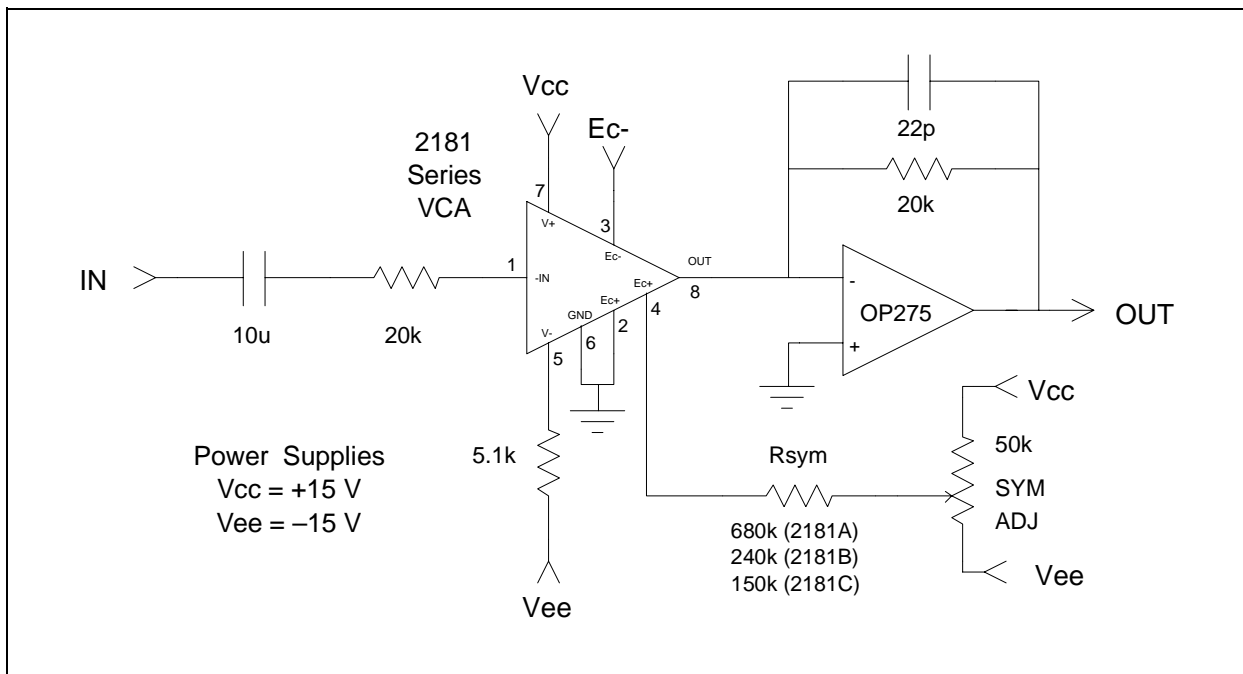
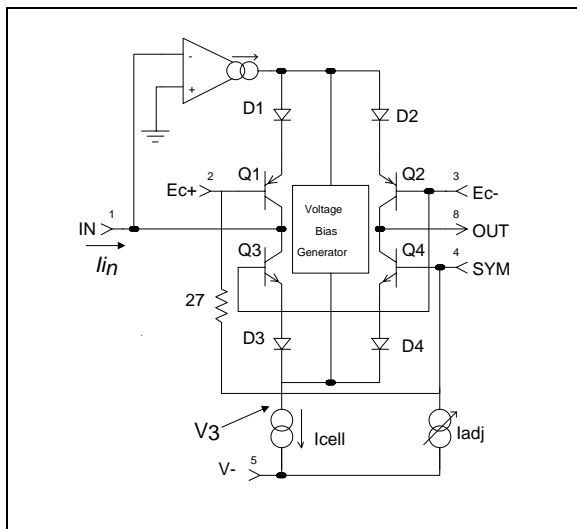
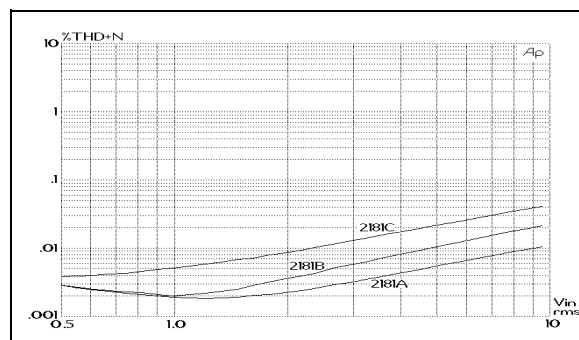

Figure 2. Typical Application Circuit
Figure 5. Simplified Internal Circuit Diagram
Figure 10. 1kHz THD+Noise Vs. Input Level, 0 dB Gain
2. Unless otherwise noted, $T_A=25^\circ\text{C}$, $V_{CC} = +15\text{V}$, $V_{EE} = -15\text{V}$. Test circuit is as shown in Figure 2. SYM ADJ is adjusted for minimum THD at 1 V, 1 kHz, $E_{C-}=-E_{C+} = 0\text{ V}$
Figure 5 presents a considerably simplified internal circuit diagram of the IC. The ac input signal current flows in pin 1, the input pin. An internal operational transconductance amplifier (OTA) works to maintain pin 1 at a virtual ground potential by driving the emitters of Q1 and (through the *Voltage Bias Generator*) Q3. Q3/D3 and Q1/D1 act to log the input current, producing a voltage, V3, which represents the bipolar logarithm of the input current. (The voltage at the junction of D1 and D2 is the same as V3, but shifted by four forward V_{be} drops.)
The 2181 current consumption is determined by the resistor between pin 5 (V-) and the negative supply voltage (V_{EE}). Typically, with 15V supplies, the resistor is 5.1 k Ω , which provides approximately 2.4 mA. This current is split into two paths: 650 μ A is used for biasing the IC, and the remainder becomes I_{cell} as shown in Figure 5. I_{cell} is further split in two parts: about 20 μ A biases the core transistors (Q1 through Q4), the rest is available for input and output signal current.
The 2181-Series VCAs are intended to be adjusted for minimum distortion by applying a small variable offset voltage to pin 4, the SYM pin. Note that there is a 27 Ω resistor internal to the 2181 between pin 4 and pin 2. As shown in Figure 2, Page 3, the usual method of applying this offset is to use the internal 27 Ω resistor along with a larger value resistor to form a voltage
The 2181-Series VCA design, fabrication and testing ensure extremely good audio performance when used as recommended. The 2181 maintains low distortion over a wide range of gain, cut and signal levels. Figures 10 through 12 show typical distortion performance for representative samples of each grade of the part. At or
The Input pin (pin 1) is a virtual ground with negative feedback provided internally (see Figure 5, Page 4). The input resistor (shown as 20 k Ω in Figure 2, Page 3) should be scaled to convert the available ac input voltage to a current within the linear range of the device. Generally, peak input currents should be kept under 1 mA for best distortion performance.
Refer to Figures 10 through 12 to see how distortion varies with signal level for the three parts in the 2181 Series for 0 dB, +15 dB and -15 dB gain. The circuit of Figure 2, Page 3 was used to generate these curves.
A designer may trade off noise for distortion by decreasing the 20 k Ω current-to-voltage converting resistors used at the input and output in Figure 2, Page 3. For every dB these resistor values are decreased, the voltage noise at the output of the OP275 is reduced by
The Output pin (pin 8) is intended to be connected to a virtual ground node, so that current flowing in it may be converted to a voltage (see Figures 2 & 15). Choose the external opamp for good audio performance. The feedback resistor should be chosen based on the desired current-to-voltage conversion constant. Since the input resistor determines the voltage-to-current conversion at the input, the familiar ratio of R_f/R_i for an inverting opamp will determine the overall voltage gain when the 2181 is set for 0 dB current gain. Since the VCA performs best at settings near unity gain, use the input and feedback resistors to provide design-center gain or loss, if necessary.
The SYM pin (pin 4) is actually a sort of additional positive-sense control port. It is provided to allow V_{be} mismatches in the core transistors to be adjusted after packaging and installation in the circuit board. It should only be used for this purpose. Connect pin 4 only to a high-impedance source as shown in Figures 2 and 15.